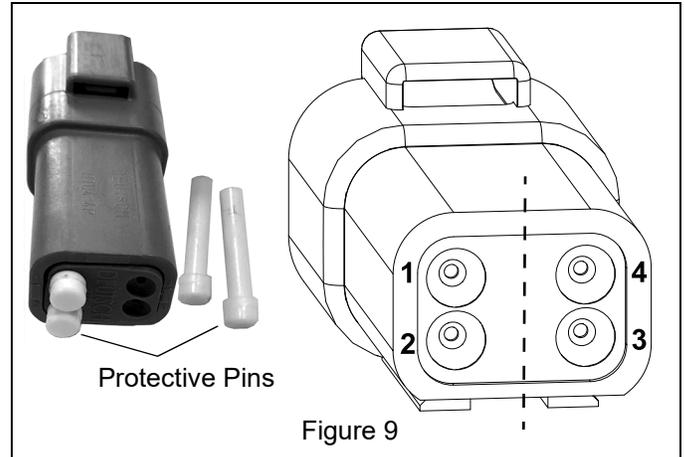

Figure 9
**IMPORTANT:** Choose one side of the plug or the other. DO NOT connect diagonally. See Figure 9.